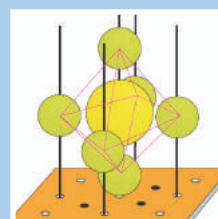

Figure 4 : Showing  $\text{SF}_6$
- (2) Regular octahedral-shaped molecules such as  $\text{SF}_6$  can be made using side A of the model by placing six balls at the face-centred positions of the cube and one in the centre, using dowels in the appropriate holes. (Fig. 4)